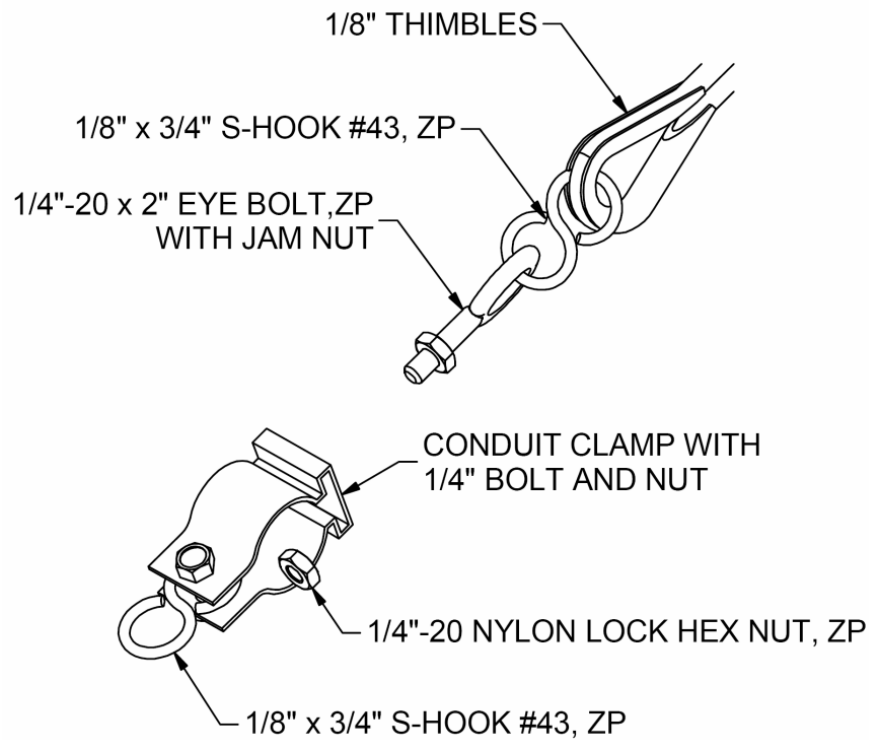

Figure 10: Assemble Clamp Fittings
2. Assemble the pipe clamps, as shown in Figure 10. Securely tighten the jam nut on the eyebolt. Close off one end of the S-Hook and place it on the hanger clamp screw. Slide the clamps onto the conduit pipe, maintaining the same spacing as the support cables. Tighten the screws holding the clamps in place.